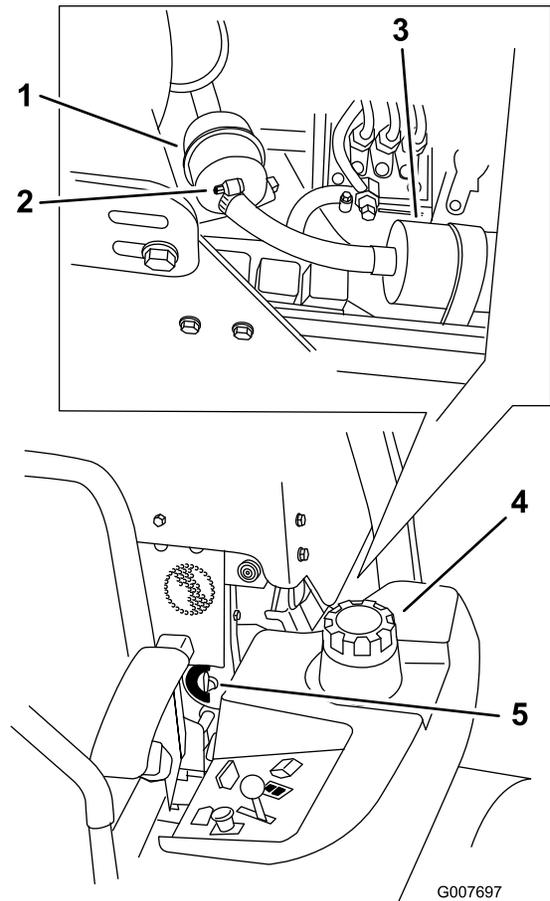

Figure 54
4. Close the fuel shut-off valve (Figure 54).
5. Loosen the 2 hose clamps and disconnect the fuel lines from the fuel filter (Figure 54).
6. Install a new filter. Connect the fuel lines to the fuel filter and install the 2 hose clamps (Figure 54).